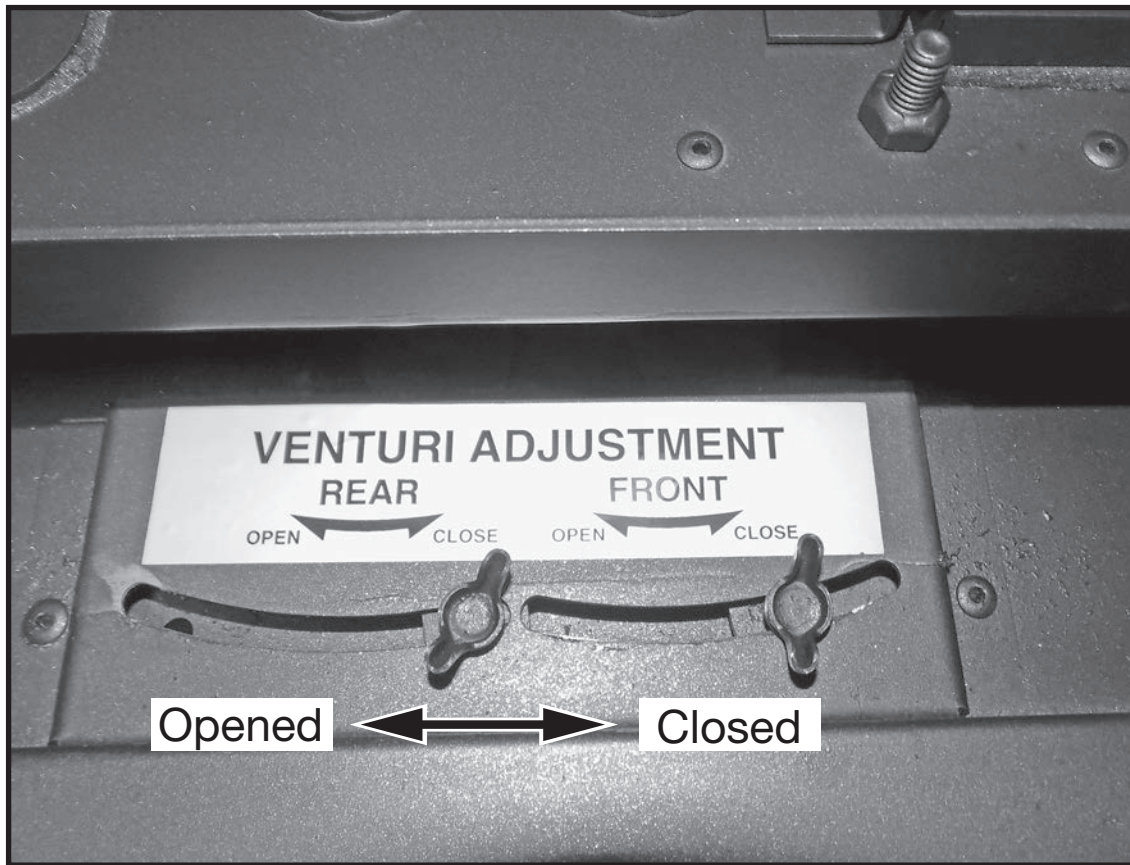

Figure 98: Venturi adjustments.
3. With the fireplace turned on, use the adjustments (Figure 98) to adjust for flame appearance.